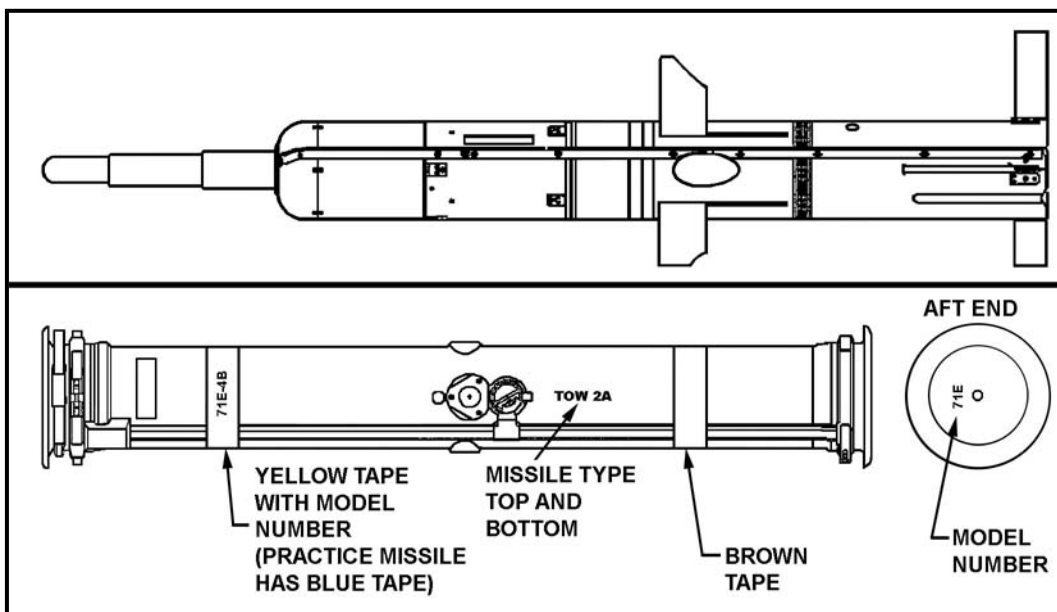

Figure 1-20. TOW 2A missile and identification.
d. **TOW 2A (BGM- and BTM-71E-Series)** (Figure 1-20). The TOW 2A looks similar to the TOW 2 missile. The difference is contained in the tip of the probe. The probe contains a tip-charge, which detonates when the probe impacts the target through the use of a crush switch. After a short delay, the main charge detonates. The tip-charge is designed to remove the reactive armor of some armored vehicles, thereby allowing the main charge to penetrate the vehicle itself. The TOW 2A warhead is the full 6-inch diameter of the body. The TOW 2A missile has a range of 3,750 meters, and both HEAT and practice warheads are available.